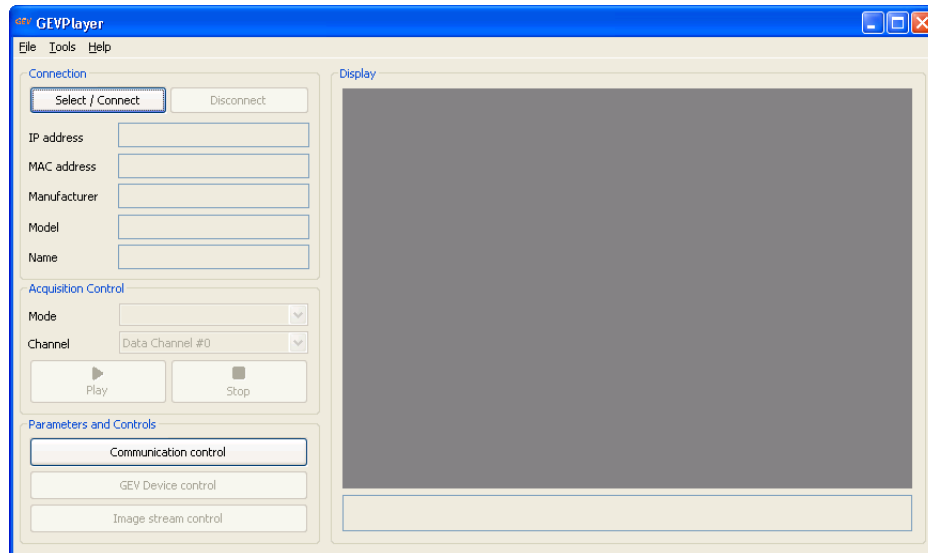

Figure 3.9: PF_GEVPlayer start screen
1. Open the PF_GEVPlayer software (Start -> All Programs -> Photonfocus -> GigE_Tools -> PF_GEVPlayer) which is a GUI to set camera parameters and to see the grabbed images (see Fig. 3.9).